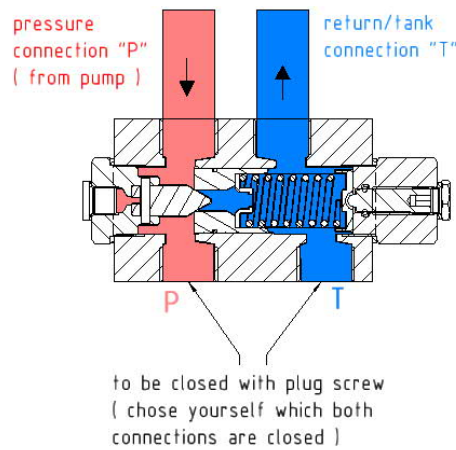
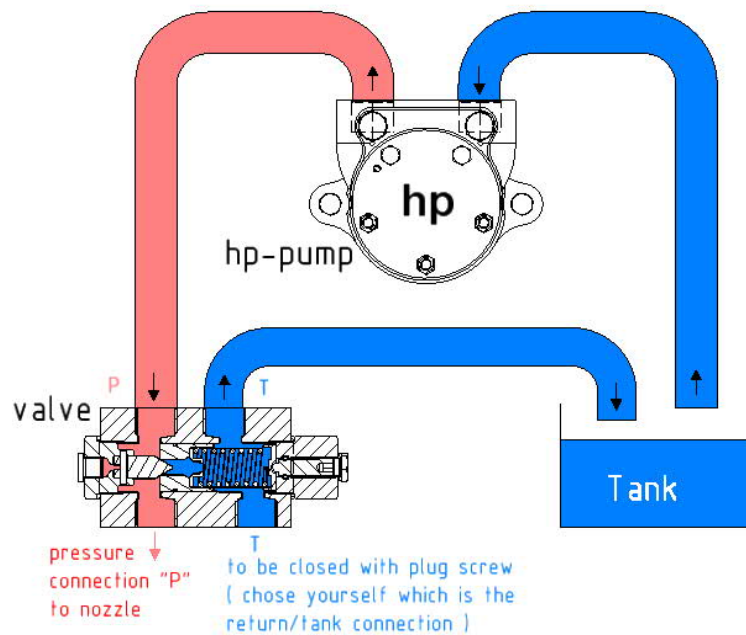

Fig.2 One pipe system
Fig.3 Two pipe system
- The overflow valve can be connected at one pipe system to work as a max. pressure regulator (Fig.2) or at two pipe system to control the system pressure (Fig.3).